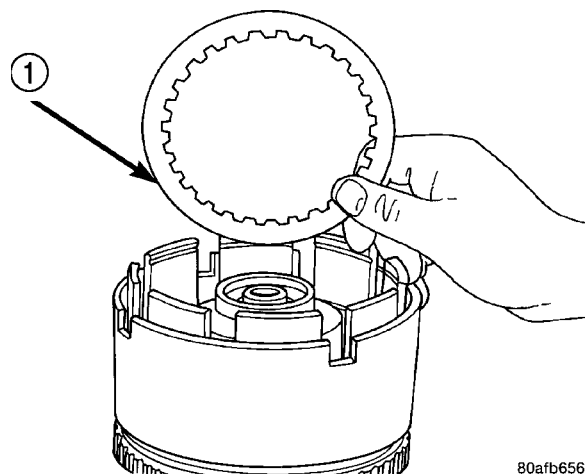

Fig. 252 Install Last UD Clutch Disc
(12) Install the last UD clutch disc (Fig. 252).